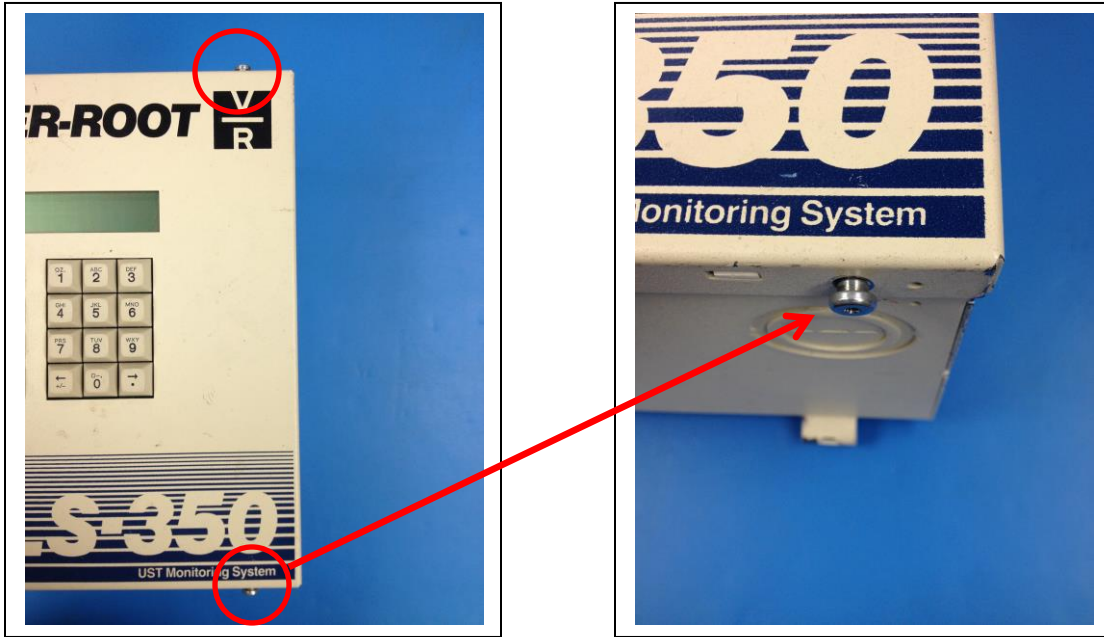

Figure 1 - Remove Door Screws
- 1** Begin the installation by removing the two T15 TORX® screws on the top & bottom of the console door (Figure 1)